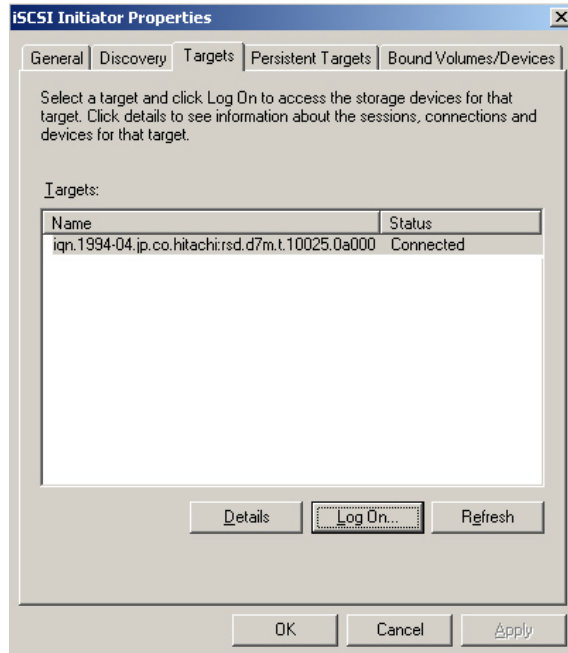

Figure A.16 Verifying iSCSI Initiator Properties
20. Under **Targets**, verify that the status of the selected target is **Connected** (see Figure A.16).